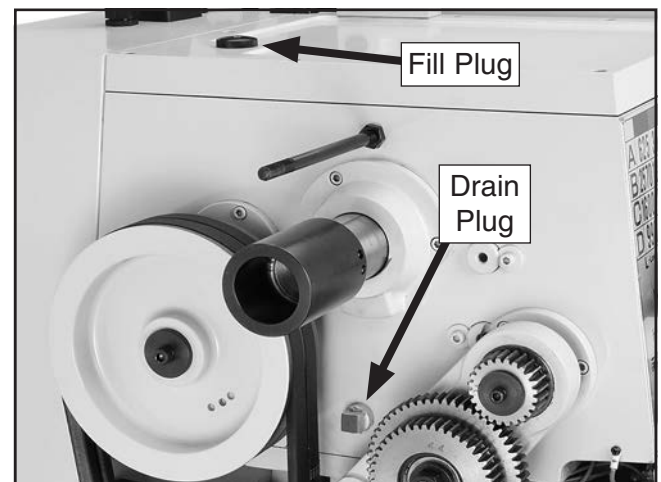

Figure 100. Headstock fill and drain plugs.
The oil fill plug is located on top of the headstock, as shown in **Figure 100**.
5. Place a 2 gallon catch pan under the headstock drain plug (see **Figure 100** on **Page 65**), then remove the plug with a $\frac{5}{8}$ " wrench.